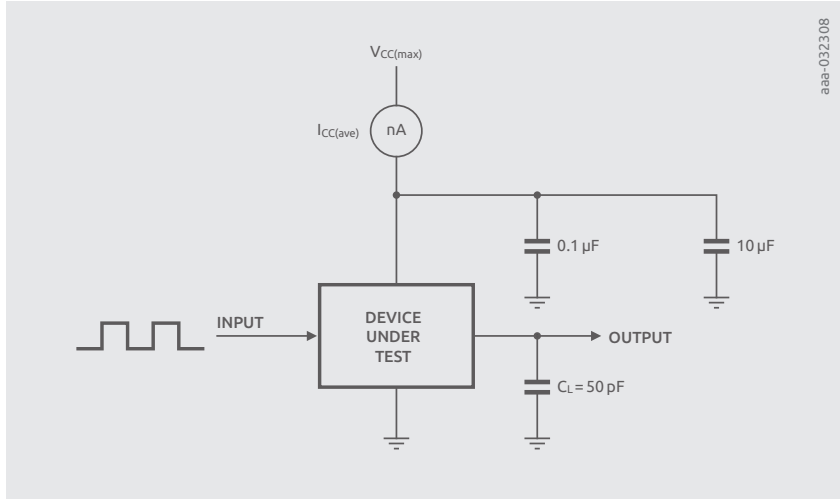

Figure 3.3 | Test set-up for C_{PD} determination
C_{PD} is specified in the CMOS device data sheets, the published values being calculated from the results of tests described in this section. The test set-up is shown in Figure 3.3. The worst-case operating conditions for C_{PD} are always chosen and the maximum number of internal and output circuits are toggled simultaneously, within the constraints listed in the data sheet. Devices that can be separated into independent sections are measured per section, the others are measured per device.
In the case of 74LVC244, I_{STAT} is negligible and can be considered as zero for the purpose of C_{PD} calculation. The test set-up for the '244 as indicated in *Conditions for C_{PD} tests* was used, with the load shown in Figure 3.3. At $V_{CC} = 3.6\text{ V}$, $f_1 = 10\text{ MHz}$; $I_{CC(ave)}$ was found to be 2.24 mA.
In the case of 74LVT244, I_{STAT} cannot be considered as negligible at low frequency. As a result, a higher frequency is recommended for modeling its C_{PD} . The test setup depicted in Figure 3.3 has been used, however at a frequency of 30 MHz. $I_{CC(ave)}$ was found to be 11.53 mA. We then apply Equation (5) with the assumption that I_{STAT} is negligible.